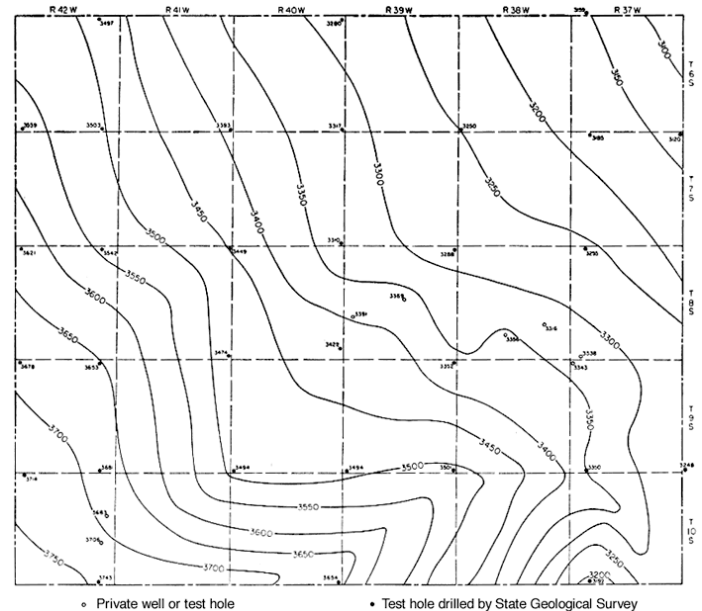

Figure 1.1:
- After labeling the peak, create rings of matching elevation height starting with the largest whole integer below the peak. For example, if the peak is at 865.43 Ft., then the first ring would be connecting where the elevation is at 865 Ft. Label the height within the ring. Continue to create continuous rings for every descending foot. Make the rings as accurate as possible. Figure 1.1 demonstrates an example. *Hint: There may be more than one hill on the site.*